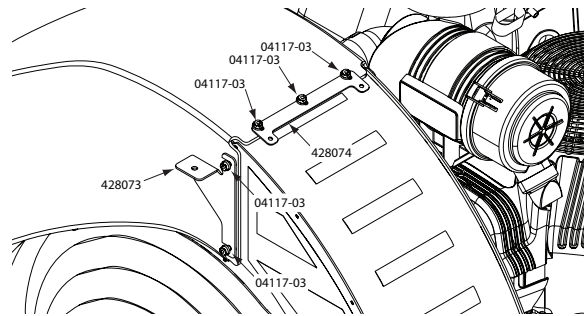

Figure 1. Loosen Nuts and Install Mounting Brackets
3. Slide the mounting brackets (p/n 428073 & 428074) under the 1/4 elastic stop nuts w/flange (p/n 04117-03). See Figure 1.